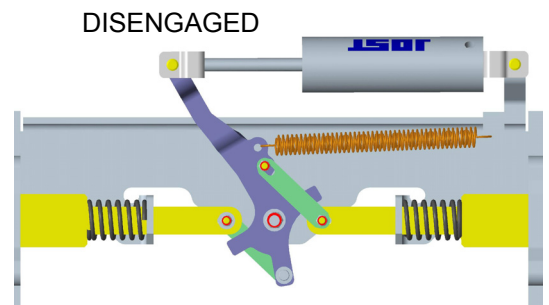

FIGURE 9
3. **Disengage the locking plungers as shown in figure 9.**